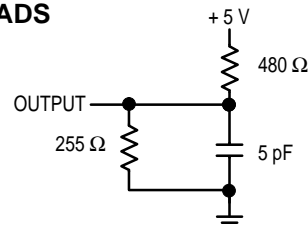

Figure 1B
6. Transition is measured $\pm 500 \text{ mV}$ from steady-state voltage with load of Figure 1B. This parameter is sampled rather than 100% tested. At any given voltage and temperature, $t_{KHQZ} \text{ max}$ is less than $t_{KHQZ1} \text{ min}$ for a given device and from device to device.